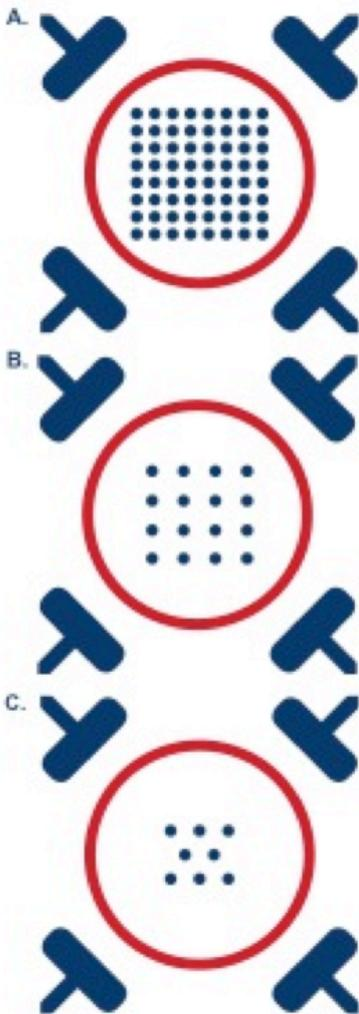

Figure 1: Drop Placement Diagram.
5. Add a 5 µL droplet of PEI solution over the MEA electrode area in a biosafety cabinet. Incubate for 1 hour at 37°C in a cell culture incubator. See **Figure 1** for placement.
9. Add a 5 μ L droplet of **Axol Sure Bond** working solution over the MEA electrode area in a biosafety cabinet. See **Figure 1** for placement.
3. Seed a 5 μL droplet of the suspension (60,000 neurons) directly over the array of electrodes in each pre-treated well. See **Figure 1** for an example of drop placement.